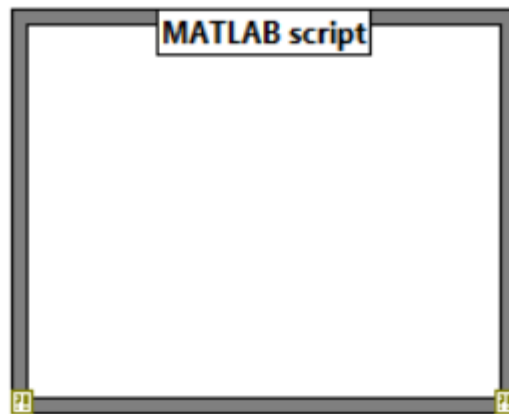

Figure 10 - MATLAB Script node
- 3) This allows MATLAB code to be run inside a LabView script (figure 10)